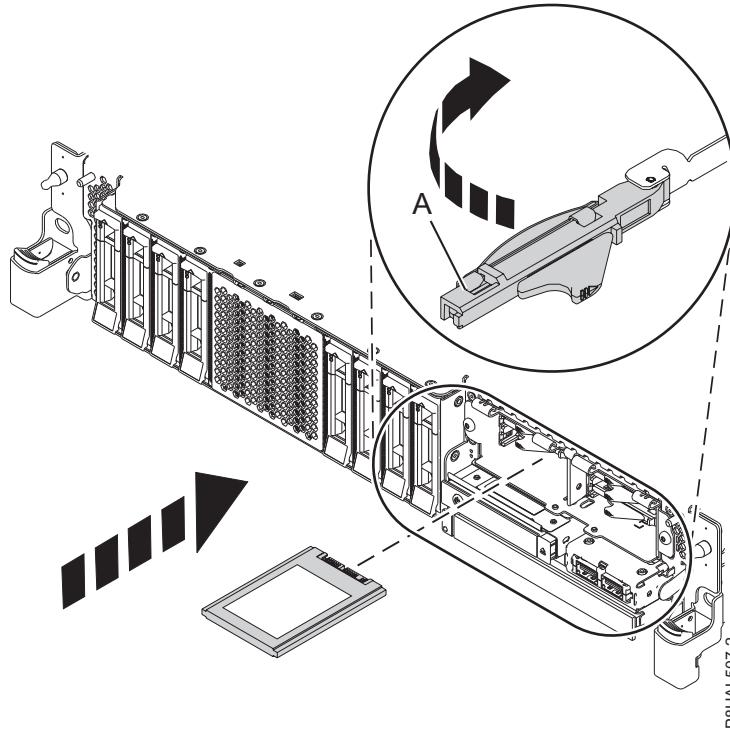

Figure 8. Installing an SSD in an expanded function 5148-21L, 5148-22L, 8247-21L, 8247-22L, 8284-21A, or 8284-22A system
4. With the SSD drive bay handle (A) in the unlocked position, pull the lever outward to gain access to the guide rails in the SSD slot. Support the bottom of the SSD as you align it with the guide rails in the SSD slot. See Figure 8 on page 12.
5. Slide the SSD into the system until the drive stops, and then lock the SSD by rotating the bay handle (A) in the direction shown. See Figure 8 on page 12.